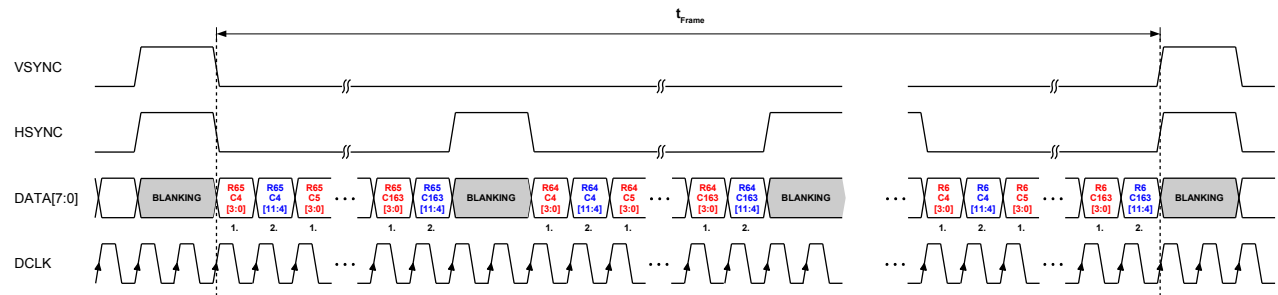

Figure 37: lb/msb split mode
- lsb/msb split mode: Transfers 12 bit pixel data with LSByte leading and MSByte trailing with 2x DCLK. Refer to Table 18 and Figure 37.